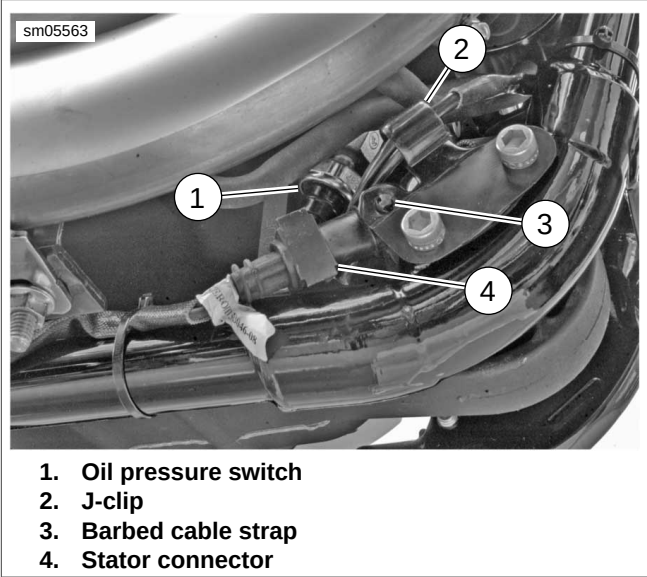

Figure 6-134. Oil Pressure Switch (Right Side View XR 1200)
4. **XR models only:** see Figure 6-134. Disconnect voltage regulator stator connector (4). Reposition neutral switch wire and voltage regulator stator wire as needed.
5. **XR models only:** see Figure 6-134.
- a. Reposition neutral switch wire and stator wire (4).
- b. Secure stator connector to bracket with barbed cable strap (3) and make sure neutral switch wire and oil pressure switch wires are secured in J-clip (2).